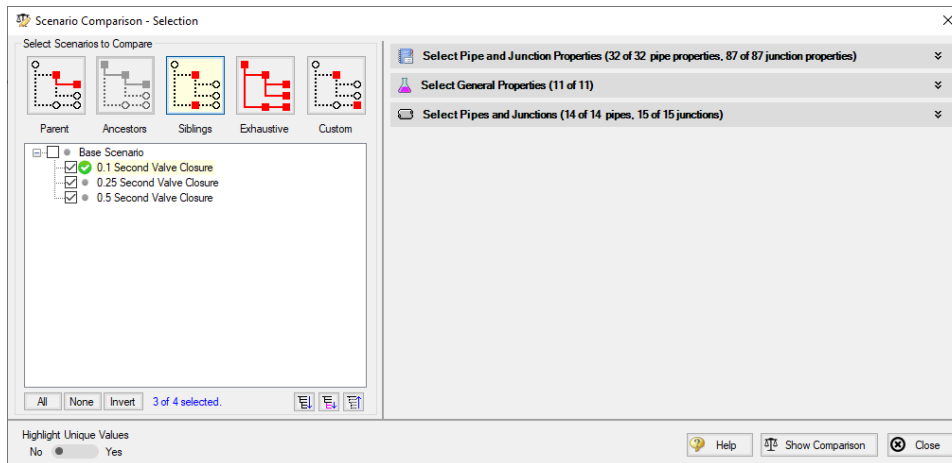

Figure 9: Scenario Comparison Tool - Selection window
3. In the Scenario Comparison - Selection window (Figure 9), select "Siblings"